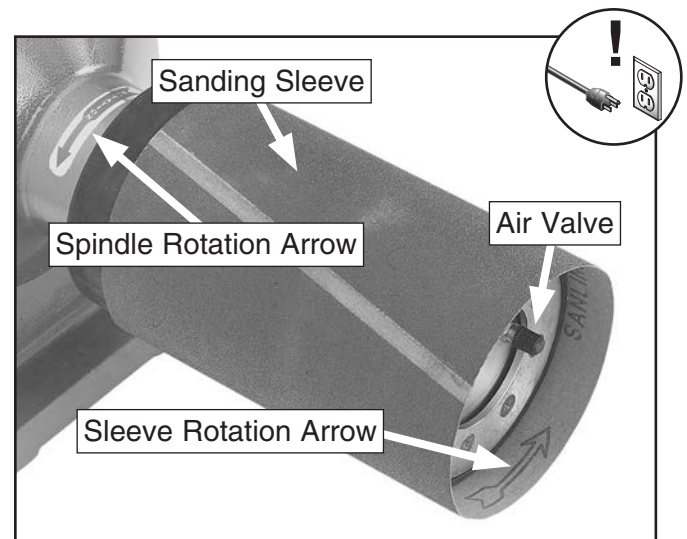

Figure 20. Replacing sanding sleeve.
2. Remove the air valve protective cap, press the valve stem to release the drum air pressure (see **Figure 20**), then slide the sleeve off the drum.